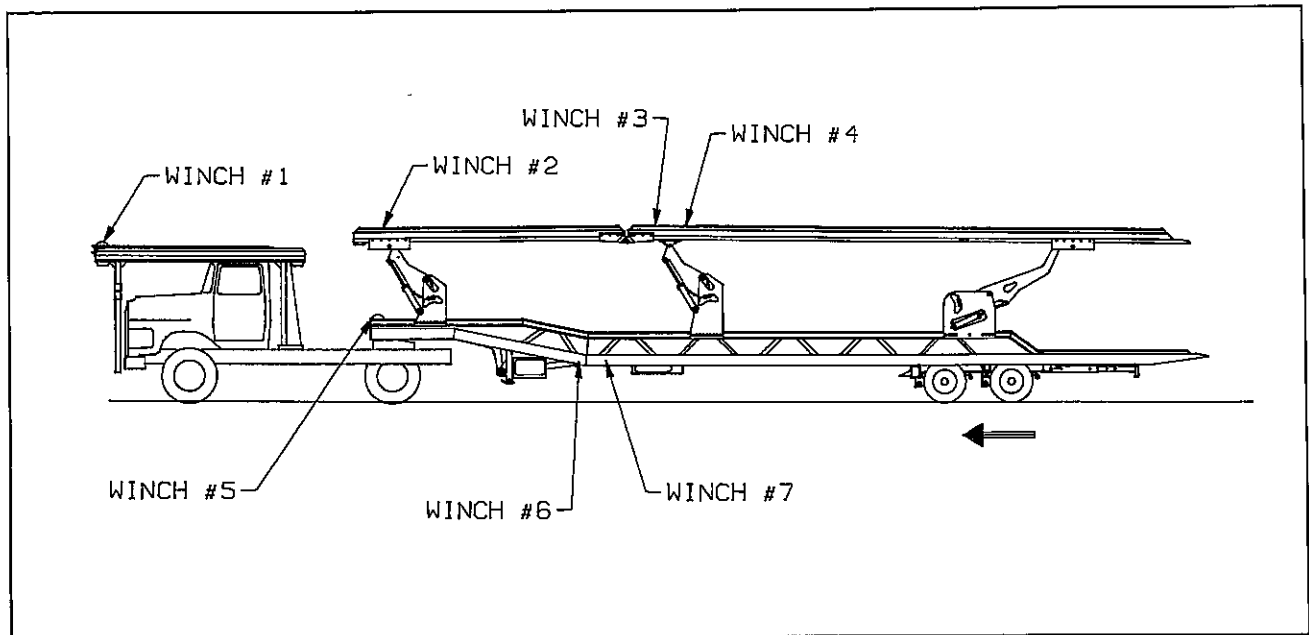
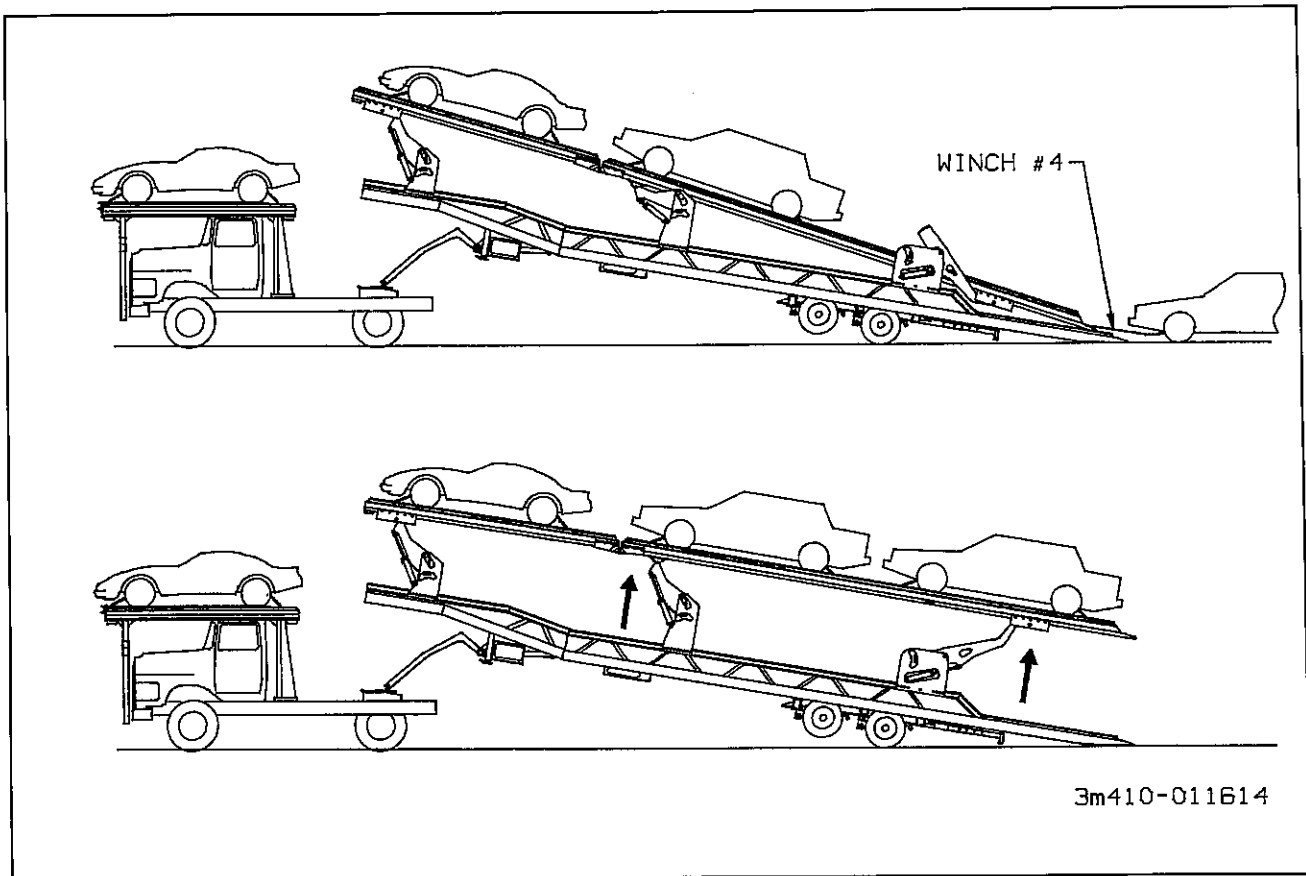

Figure 3-6 Preparation for Loading
Figure 3-10 Loading the Upper Deck
- a. Park the tractor/trailer in a straight line on a level even surface. Set the tractor brakes and release the semitrailer brakes. (See Figure 3-6.)
h. Prepare the first vehicle to be winched onto the trailer. Connect winch #2 (see Figure 3-6) to the first vehicle and pull it to the front of the upper deck. Secure the vehicle so it will not roll forward or backward.
- f. Connect winch #2 (see Figure 3-6) to the next vehicle and pull it to the front of the upper deck. Make
- g. Free-wheel the winch cable from winch #4 (see Figure 3-6) out until it is at the rear of the upper deck so it is accessible after loading the next vehicle.
- h. Connect winch #3 (see Figure 3-6) to the next vehicle and pull it to the center position on the upper deck. Secure with chains (see paragraph 3-11.7).
- i. Connect winch #4 (see Figure 3-6) to the next vehicle and pull it to the rear position on the upper deck. (See Figure 3-10.) Secure with chains (see paragraph 3-11.7).
c. Connect winch #5 (see Figure 3-6) to the next vehicle and pull it to the front of the lower deck as far as
d. Free-wheel the winch cable from winch #7 (see Figure 3-6) out until it is at the rear of the lower deck so it is accessible after loading the next vehicle.
e. Connect winch #6 (see Figure 3-6) to the next vehicle and pull it to the center position on the lower deck. Secure with chains (see paragraph 3-11.7).
f. Connect winch #7 (see Figure 3-6) to the next vehicle and pull it to the rear position on the lower deck. Secure with chains (see paragraph 3-11.7).
h. Reel out winch #1 (see Figure 3-6) to allow the vehicle to move off of the Over-the-cab deck and onto the trailer upper deck.
i. After the vehicle is completely on the trailer bed, secure the vehicle so winch #1 (see Figure 3-6) can be disconnected and winch #2 (see Figure 3-6) can be connected to the vehicle.